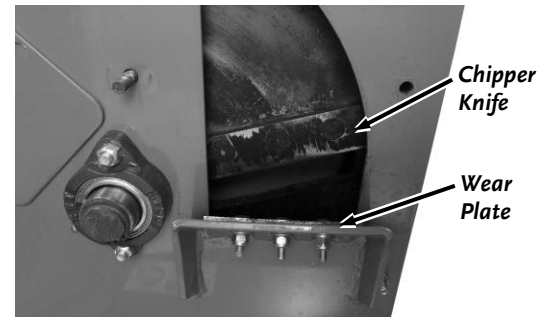

Figure 31
- Use a long stick to rotate the Flywheel until the Knife is next to the Wear Plate (**Figure 31**).